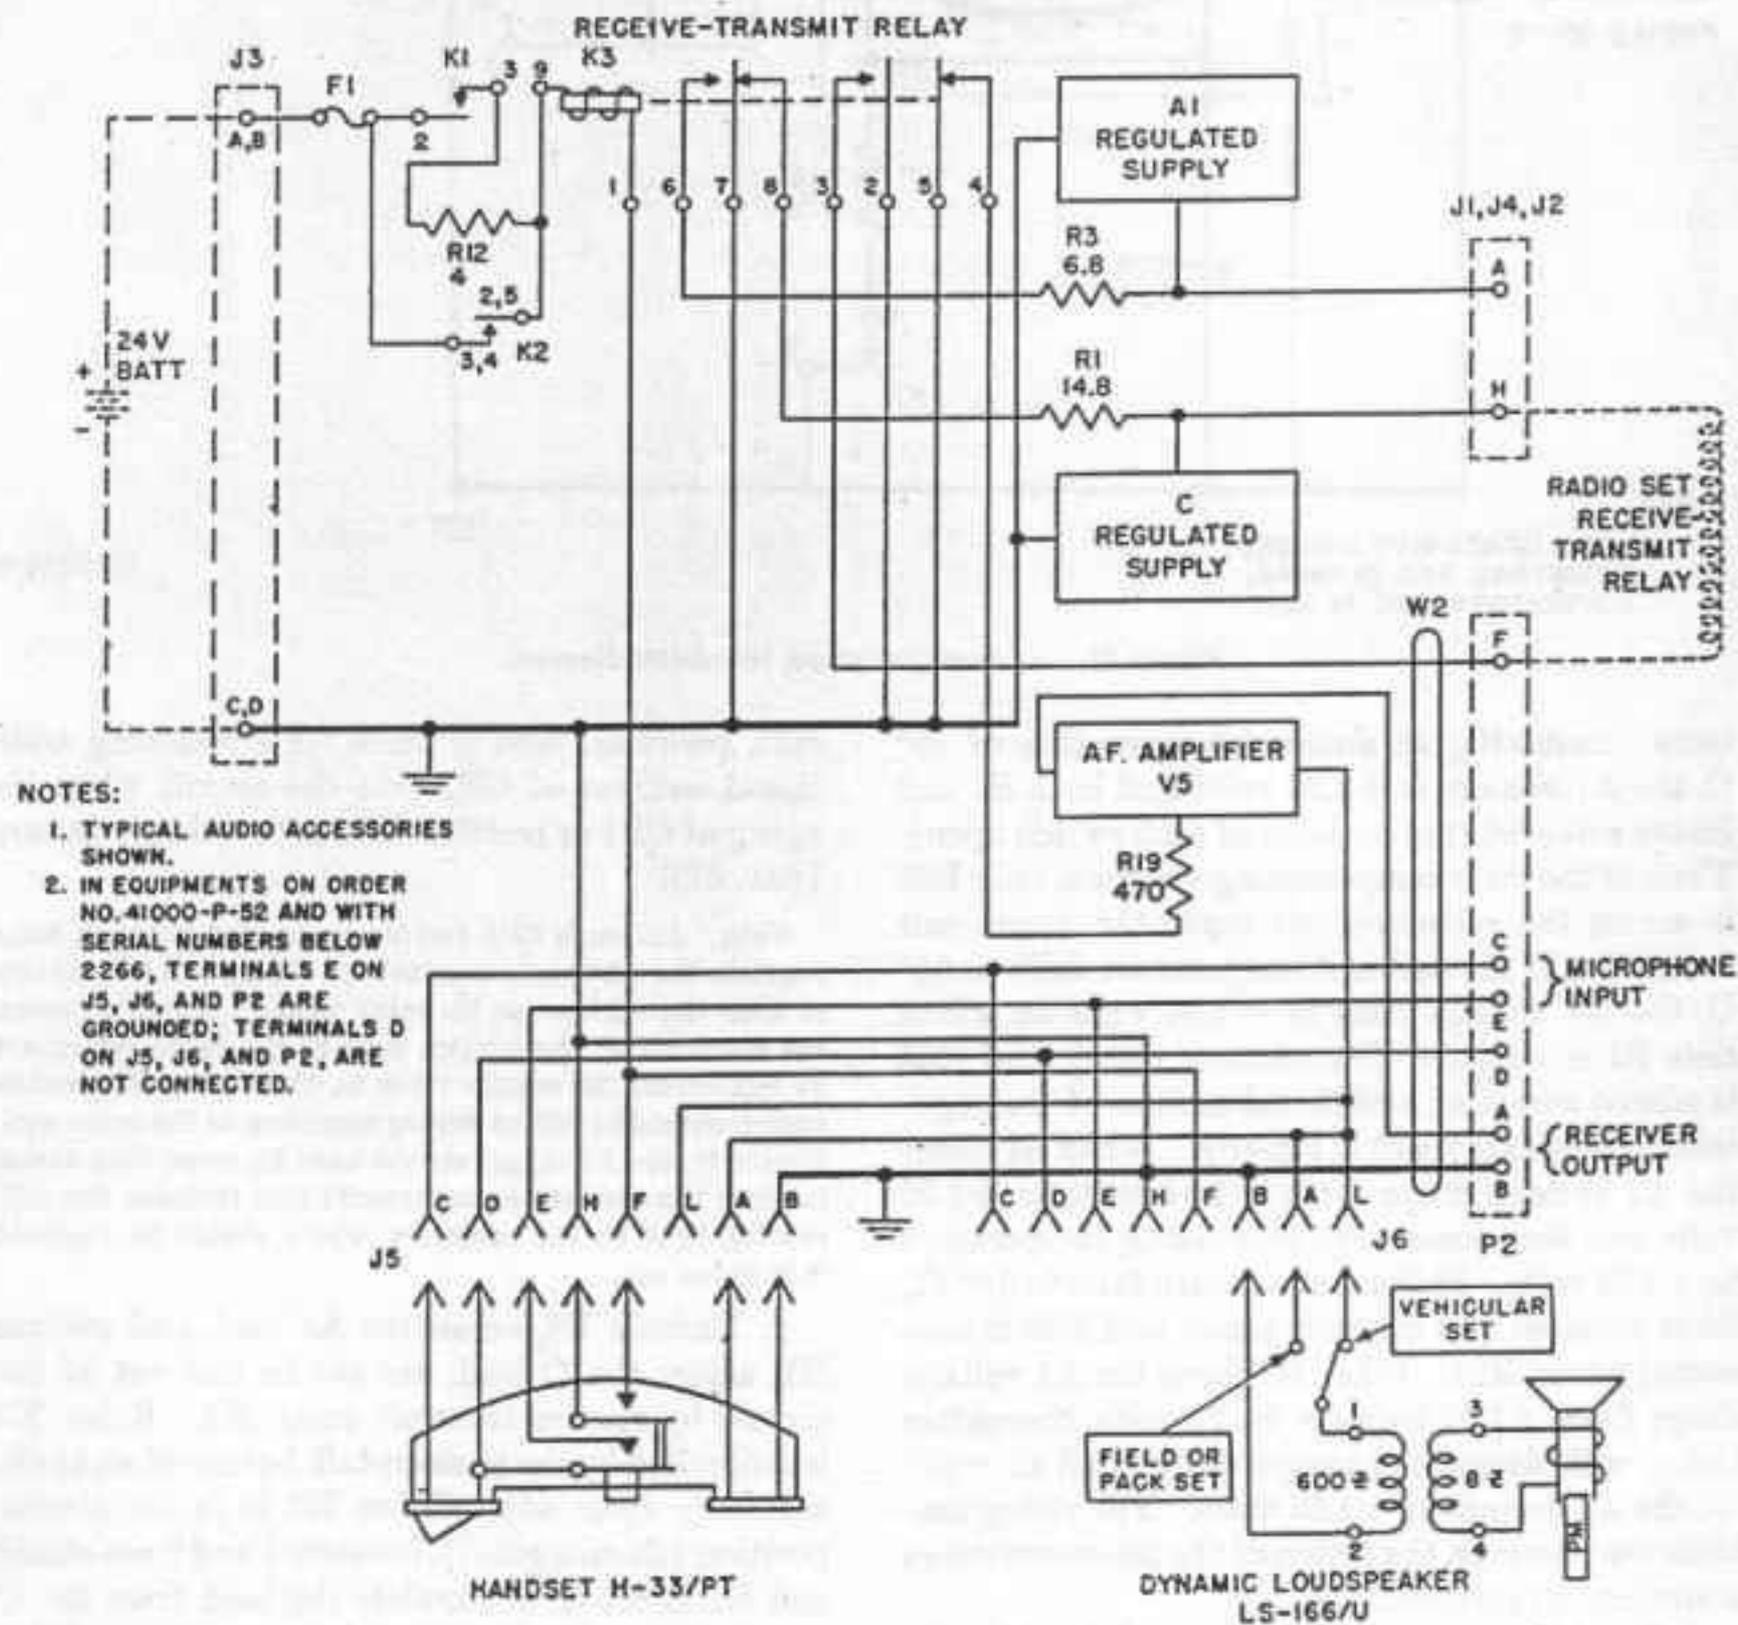

Figure 25. Receive-transmit relay, schematic diagram.
The output of the stage is connected to terminals L and A of J5 and J6 and is available for loudspeaker, headset, or handset operation (fig. 25).
44. Control of Radio Set With Microphone M-29/U, Chest Set Group AN/GSA-6, or Handset H-33/PT, and Dynamic Loudspeaker LS-166/U (fig. 25)